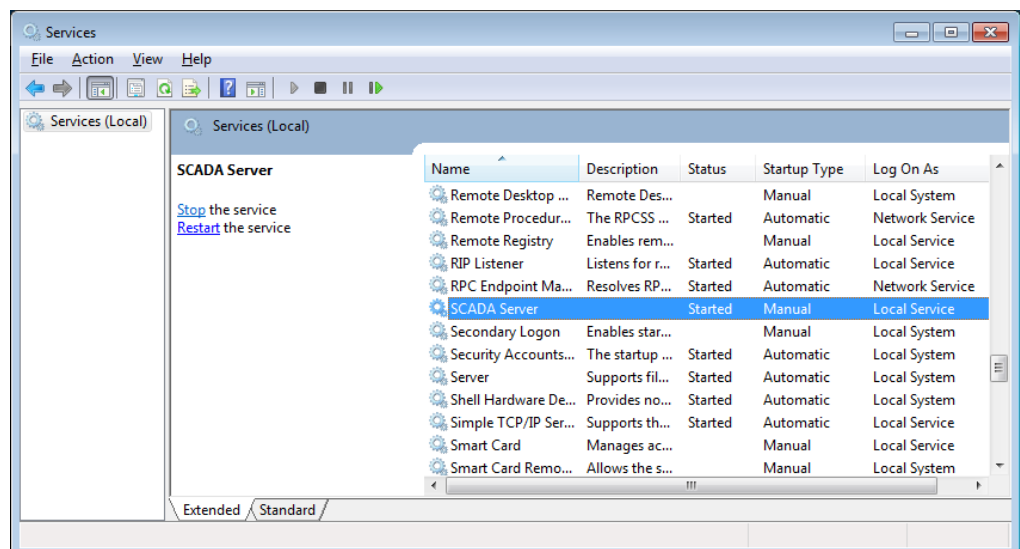

Figure 13: SCADA server
- Open the management terminal „services.msc“, see ►Figure 13◄, by